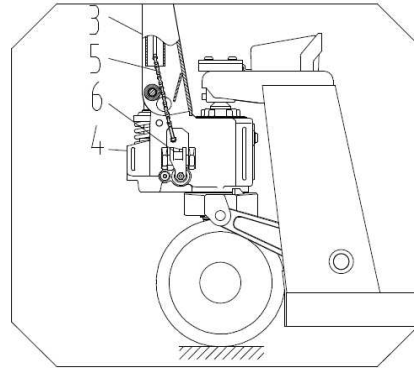
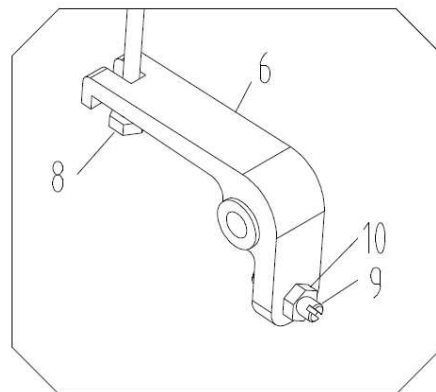

Fig2
Fig4
3.4 See fig 2. Put the chain 5 of hand grip get across the middle hole of pin roll 2.
3.5 Take screw nut which is at the end of chain 5 and hitch the groove of lever board 6. See fig 2 and fig 4.
4.2 The screw 9 in fig 4 is used to adjust the truck situation. When the truck body drops immediately after it is lifted, you should turn the screw 9 a little counter-clockwise. And then try the truck again until truck body could lift normally. If the truck body couldn't drop after it is lifted, you should turn the screw 9 a little clockwise. And then try to operate truck again until the truck body could drop normally. The external hexagon nut 10 at screw 9 plays the locking function in the truck. So you should undo the external hexagon nut 10 before adjustment. And screw down the nut 10 after adjustment.